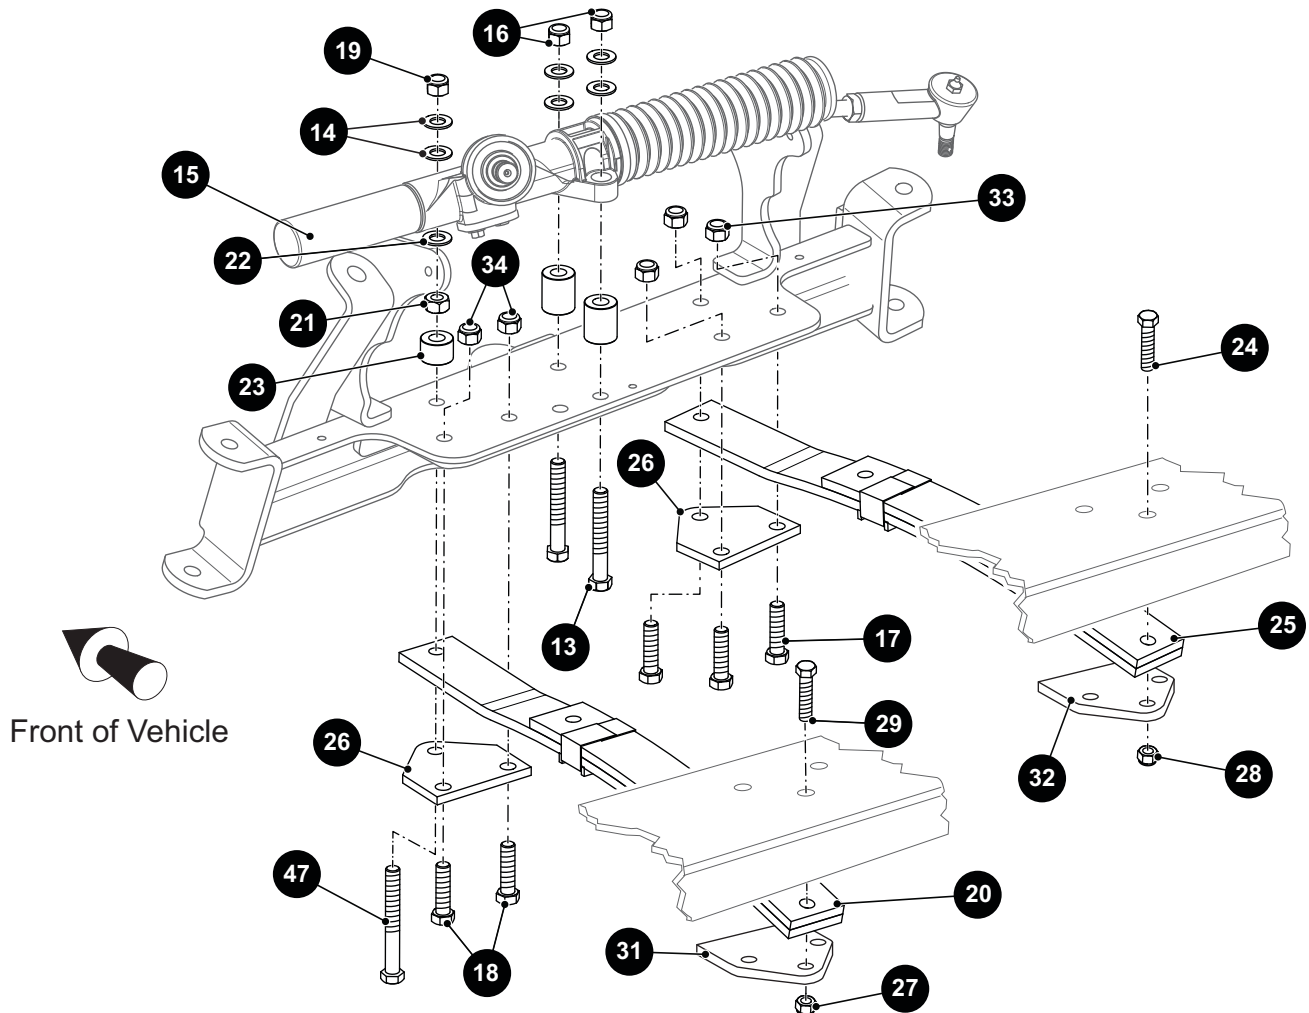

Figure 6 Leaf Springs
1. Fully loosen the two lock nuts (16) on the bellows end of the rack and pinion unit (15) until only one thread is engaged (Ref. Figure 6).
2. Remove the lock nut (19) and washers (14) from the long bolt (47). The rack and pinion unit (15) is now loose.
3. Remove the bolts (18) and lock nuts (34) securing the front of the driver side spring (20) to the axle.
4. Hold the nut (21) with a wrench and loosen the long bolt (47). Note the location of the washer (22) and thread the long bolt out as far as possible to remove the washer, nut and spacer (23).
5. Remove the long bolt (47) and spring plate (26) from the axle and spring (20).
7. Remove the lock nuts (27), bolts (29), and spring plate (31) securing the rear of the spring (20) to the vehicle frame.
CAUTION To prevent stress and possible damage to the rack and pinion unit, the driver side spring must be mounted to the axle with the hardware installed in its original location (Ref. Figure 6).
1. Remove the lock nuts (33), bolts (17), and spring plate (26) securing the front of the passenger side leaf spring (25) to the axle (Ref. Figure 6).
3. Remove the lock nuts (28), bolts (24), and spring plate (32) securing the rear of the spring (25) to the vehicle frame.